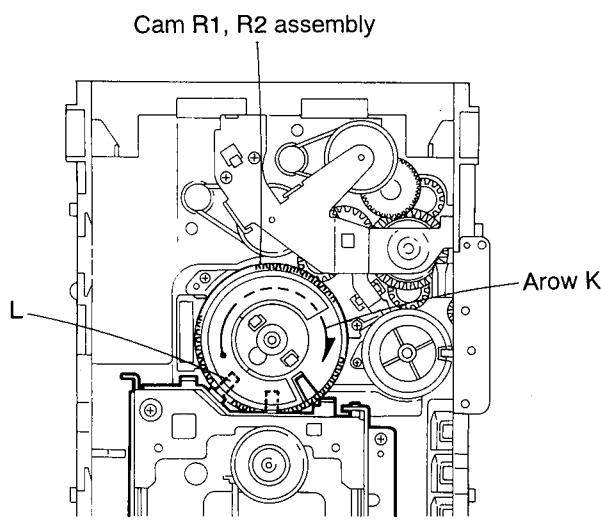

Fig. 2-20
■ Removing the CD mechanism (See Figs. 2-20 and 2-21)
1. For dismounting only the CD mechanism without removing the CD mechanism assembly, align the shaft (L) of the CD mechanism assembly to the position shown in Fig. 2-20 while turning the cam R1 and R2 assembly in the arrow direction (K).